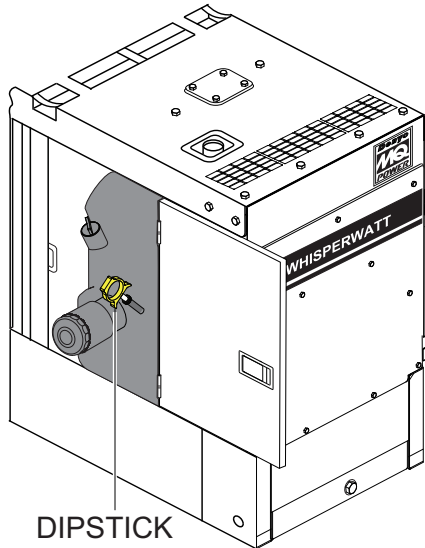

Figure 26. Engine Oil Dipstick Holder
2. Remove the dipstick from its holder (Figure 26) and wipe it clean.